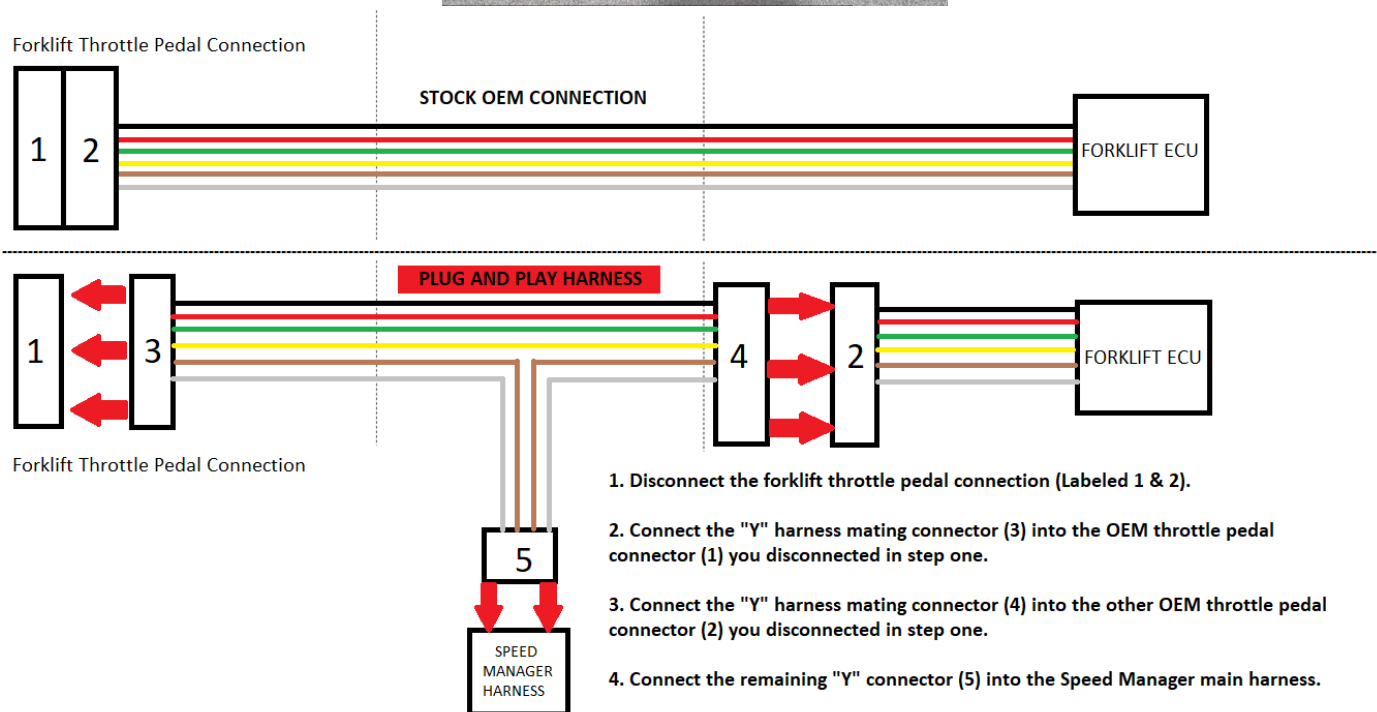

Figure 6.B (PLUG & PLAY) Utilizing a "Y" harness for connection to Speed Manager Harness
- The screen will change to show (see Figure 6)